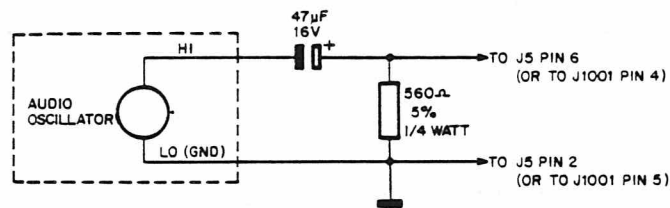

Figure 1
2. Connect an audio oscillator to the microphone audio input through the circuit shown in Figure 1. Set the oscillator frequency to 1 kHz and the output level to 800 mV RMS.